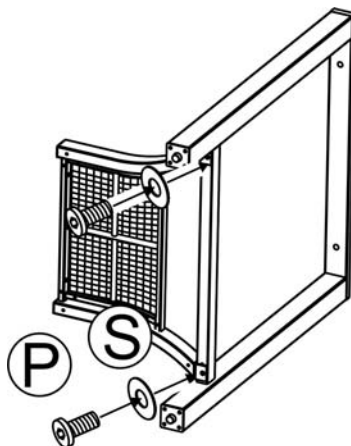

Figure 2
2. Attach a leg connector bracket to a table leg by using two 1/4"x20 mm bolts and Ø6.5x1.0 mm washers as shown in Figure 2. Guide the bolts through the holes in the leg connector bracket, into the pre-drilled holes in the table leg. Hand tighten only 2-3 turns. Repeat for the other leg and leg connector bracket.